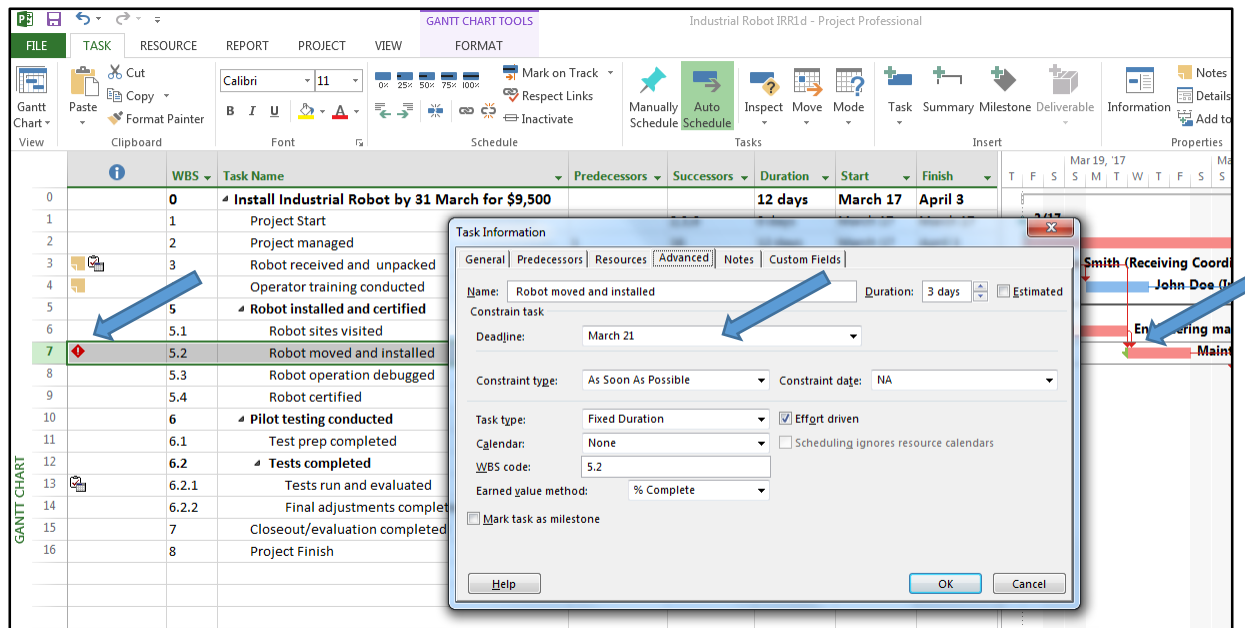

Figure 22
- A preferred method to highlight critical dates is to insert a Deadline in the Task Information dialog box. This will be indicated as a green down-arrow on the task bar in the Gantt. If the deadline is to the right of this arrow, the task is late and a missed-deadline icon  appears in the Indicators column. (Figure 22)